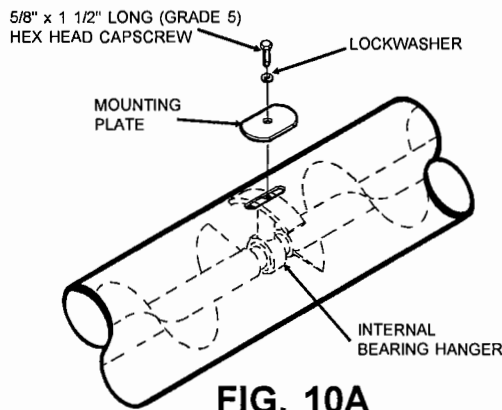
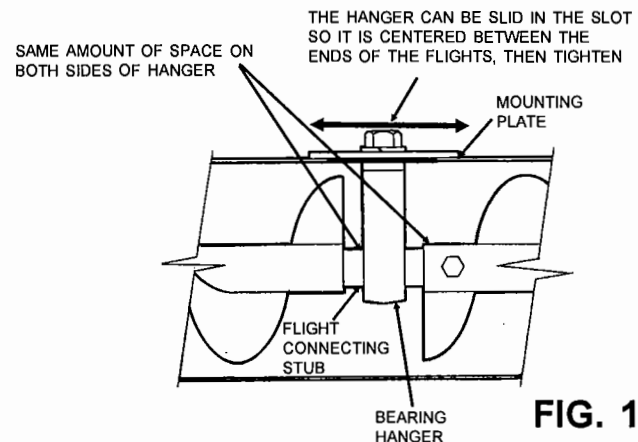

FIG. 10A
FIG. 10B
C. Attach the internal bearing hangers to the auger housing using a mounting plate, 5/8" x 1" long (grade 5) hex head capscrew and lockwasher per each hanger. See Fig. 10A. Before tightening the mounting bolts down, adjust the internal bearing hangers so they are centered between the ends of the auger flights. (See Fig. 10B.) This can be done by sliding the hanger back and forth in the slot to determine the approximate center.